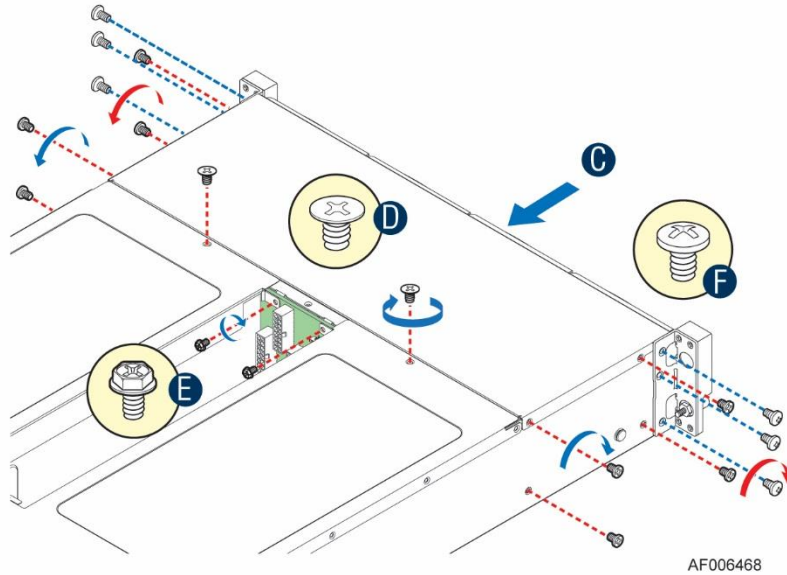

Figure 51. Installing the drive cage to the chassis
2. Install the drive cage to the chassis (C) and fix the drive cage with the screws (D, E and F) as pictured in Figure 51.